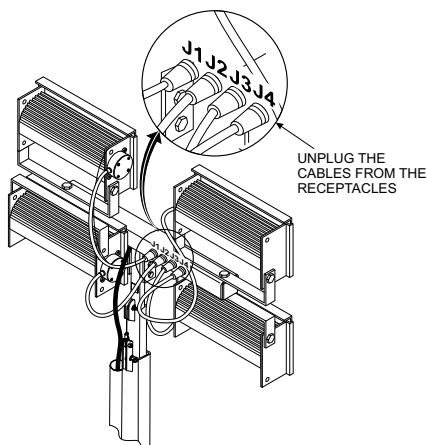

Figure 4. Remove Cables
2. Disconnect the lamp power cables from receptacles J1 to J4 on the T-Bar assembly. See Figure 4.